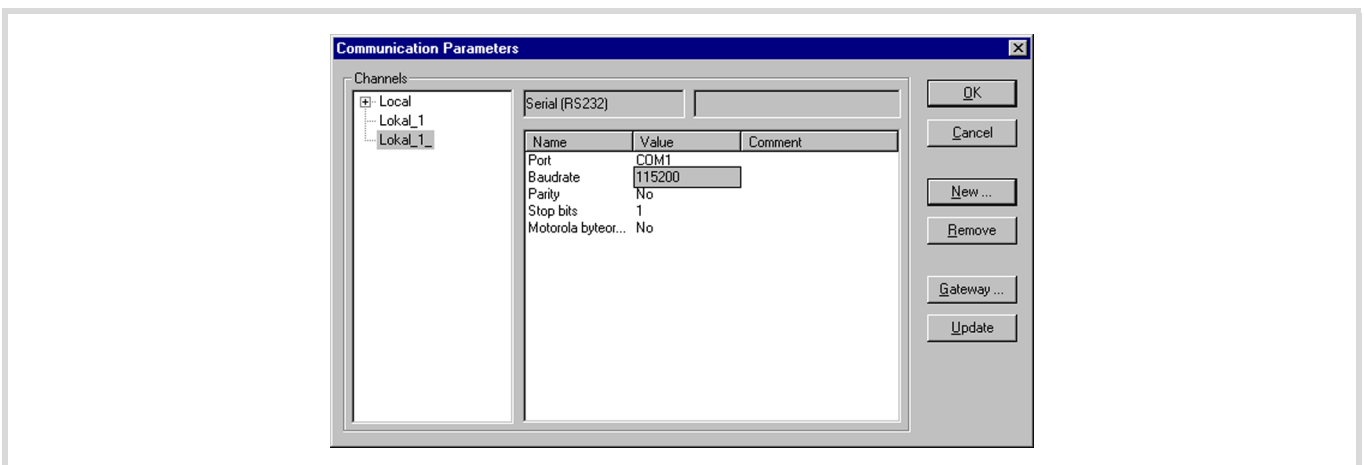

Figure 59: Select communication parameters
- ▶ Preselect the values indicated in Figure 59.